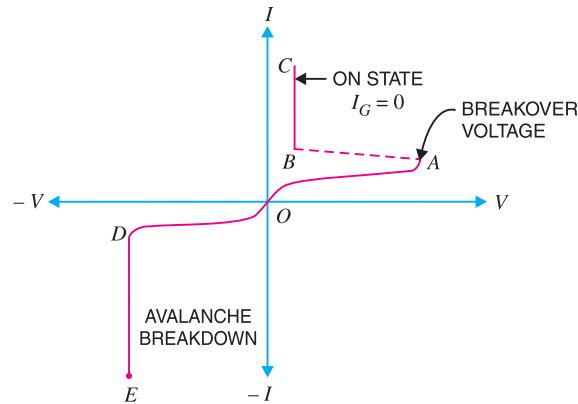

Fig. 20.7
It is the curve between anode-cathode voltage (V) and anode current (I) of an SCR at constant gate current. Fig. 20.7 shows the V-I characteristics of a typical SCR.
(i) Forward characteristics. When anode is positive w.r.t. cathode, the curve between V and I is called the forward characteristic. In Fig. 20.7, OABC is the forward characteristic of SCR at $I_G = 0$. If the supply voltage is increased from zero, a point is reached (point A) when the SCR starts conducting. Under this condition, the voltage across SCR suddenly drops as shown by dotted curve AB and most of supply voltage appears across the load resistance R_L . If proper gate current is made to flow, SCR can close at much smaller supply voltage.